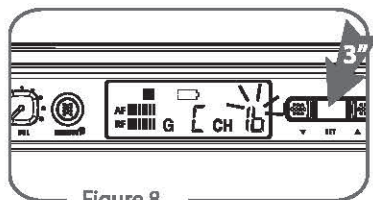

Figure 8
- (1) Press "Set" button ⑤ for 3 seconds, the group (G) in the "Group & Channel" area will flash. (Figure 8)
- (2) Press "▲Up" ③ or "▼Down" ④ button to select a desired group
- (3) Press "Set" again and the Channel (CH) in the "Group & Channel" area will flash.
- (4) Press "▲Up" or "▼Down" button to select a desired channel.
- (5) After setting, press "Set" again to save the settings.